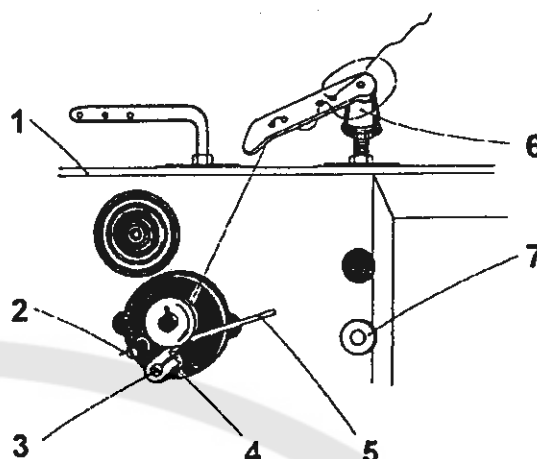

Fig. 6
9. To wind the hook bobbin (Fig. 6)